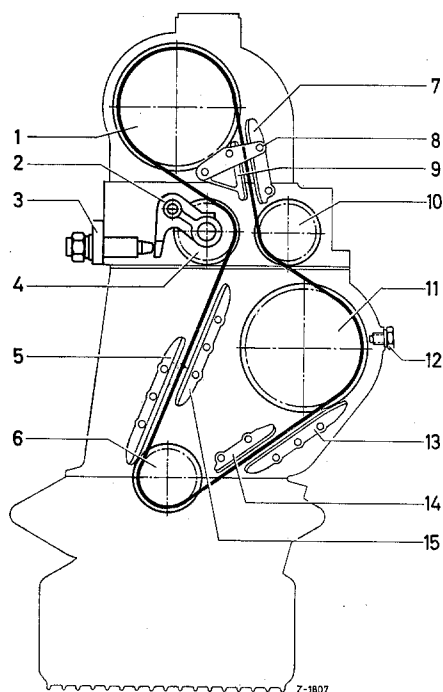

Figure 01-25/1
5. Dismount the front bearing bushing (11) for the intermediate sprocket shaft; to do this, dismount the locking plate and knock out the bearing bushing (11) as well as the rear bearing bushing (12) using a suitable drift (see Figure 01-25/2).
6. Use a suitable drift to knock the bearing body (38) with bushing (40) for the helical gear from the oil pan side (see Figure 01-25/2).